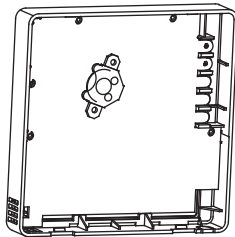

Fig. 6 — Battery Installation
- a. Place the battery into the installation site and ensure the positive side of the battery is in accordance with the positive side of installation site (see Fig. 6).